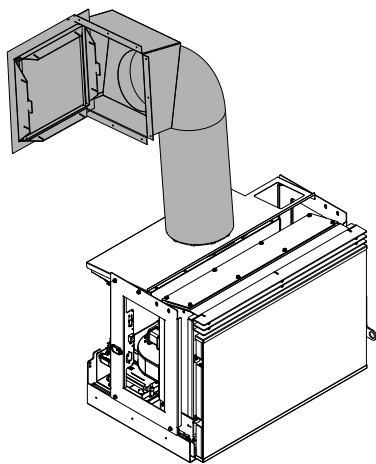

Fig. 38
- Loading system with flexible metal pipe and loading door (**Fig. 38**).